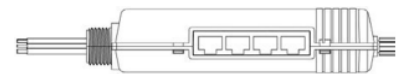

Figure 2
- Connect the control devices (e.g. occupancy sensors, daylight sensor and switches) to any of the RJ45 ports available using a UTP patch cord. Similar devices (e.g. switches or occupancy sensors) may be connected together from the same RJ45 port. (See Figure 2)